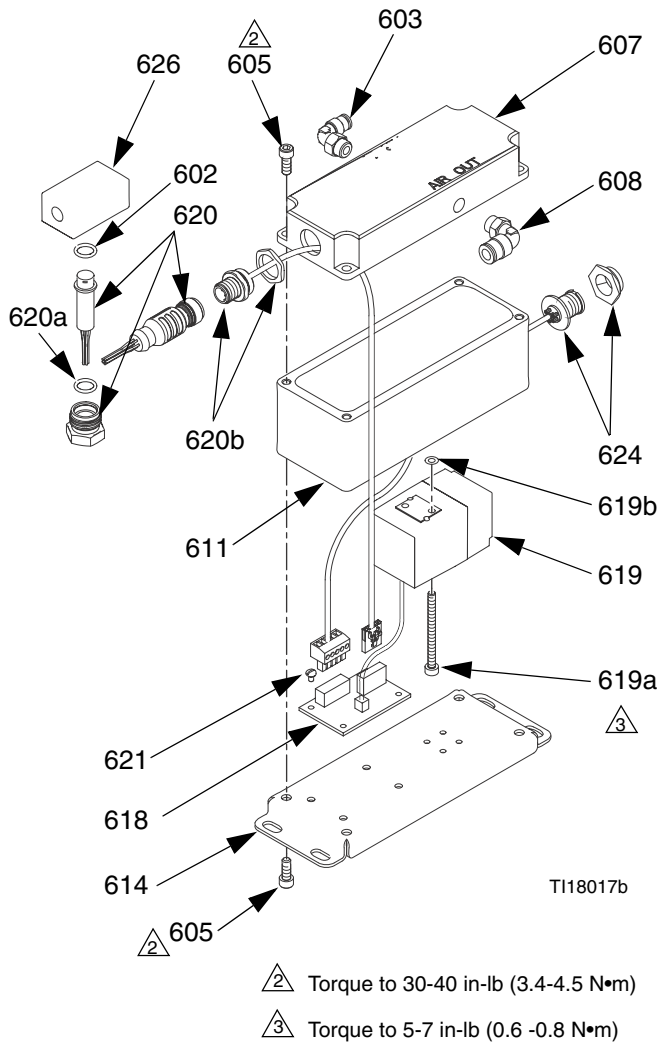
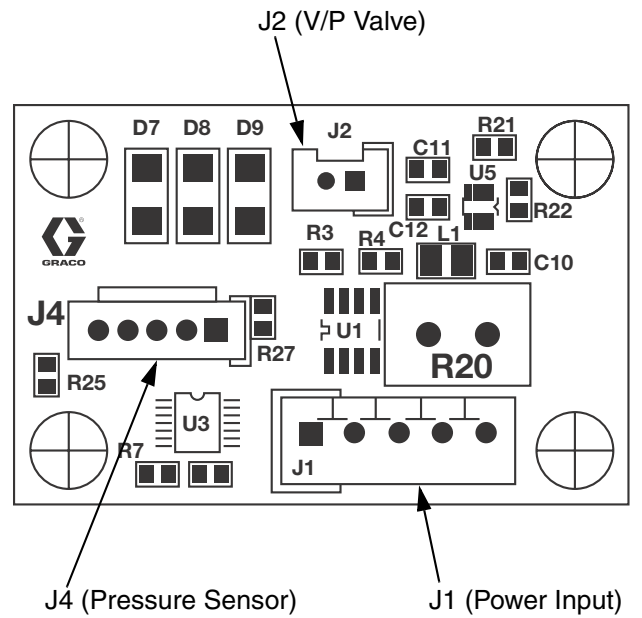

FIG. 5: 24H989 Flow Control Module
FIG. 6: 249179 Flow Control Board
6. *Model 24H989 only:* Disconnect all fluid lines from the pressure sensor fitting (626).
7. Disconnect the flow control cable from the flow control harness (624). FIG. 4 or FIG. 5.
4. Remove the plug (615) and o-ring (604) from the top of the fluid plate (606). Remove the parts of the diaphragm assembly (613, 610, 609, 612, 617, 616). Remove and discard the dowels (623).
5. Reassemble the diaphragm assembly using the new parts from the kit. Be sure the AIR SIDE of the diaphragm (617) faces down. Torque the nut (601) to 8-10 in-lb (0.9-1.1 N•m).
6. Install a new o-ring (602) on the pressure sensor (620) and screw the sensor into the fluid plate (606).
7. Reinstall the fluid plate on the air plate. Be careful not to pinch the pressure sensor cable. Torque the screws (605) to 30-40 in-lb (3.4-4.5 N•m).
8. Reconnect the three cables to J1, J2, and J4 on the circuit board (618). FIG. 6.
9. Reattach the air plate (607) to the housing (611). Torque the screws (605) to 30-40 in-lb (3.4-4.5 N•m).
① Torque to 8-10 in-lbs (0.9-1.1 N•m)
② Torque to 30-40 in-lbs (3.4-4.5 N•m)
③ Torque to 5-7 in-lbs (0.6 -0.8 N•m)
2. Disconnect the pressure sensor (620) from the pressure sensor wire harness (620b). FIG. 5.
3. Unscrew the pressure sensor (620) from the pressure sensor fitting (626).
4. Install a new o-ring (602) on the new pressure sensor (620).
3. Remove the four screws (605) holding the air plate (607) to the housing (611). Unscrew the nut from the pressure sensor wire harness connector (620b).
4. Carefully lift the plate (607) off the housing. Disconnect the wire harness from J4 on the circuit board (618) and remove the wire harness. FIG. 6.
6. Reattach the air plate (607) to the housing (611). Torque the screws (605) to 30-40 in-lb (3.4-4.5 N•m).
2. Remove the four screws (605) holding the bracket (614) to the housing (611). FIG. 4 or FIG. 5.
3. Carefully separate the bracket from the housing and disconnect the three cables from J1, J2, and J4 on the circuit board (618). FIG. 6.
4. Remove the screws (621). Replace the old board with the new board. Install the screws (621).
5. Reconnect the three cables to J1, J2, and J4 on the circuit board (618). FIG. 6.
6. Reattach the bracket (614) to the housing (611). Torque the screws (605) to 30-40 in-lb (3.4-4.5 N•m).
3. Carefully separate the bracket from the housing and disconnect the V/P valve cable from J2 on the circuit board (618). FIG. 6.
4. Remove the two screws (619a) and o-rings (619b). Install the new valve (619) with new screws and o-rings. Torque the screws to 5-7 in-lb (0.6-0.8 N•m).
5. Reconnect the V/P valve cable to J2 on the circuit board (618). FIG. 6.